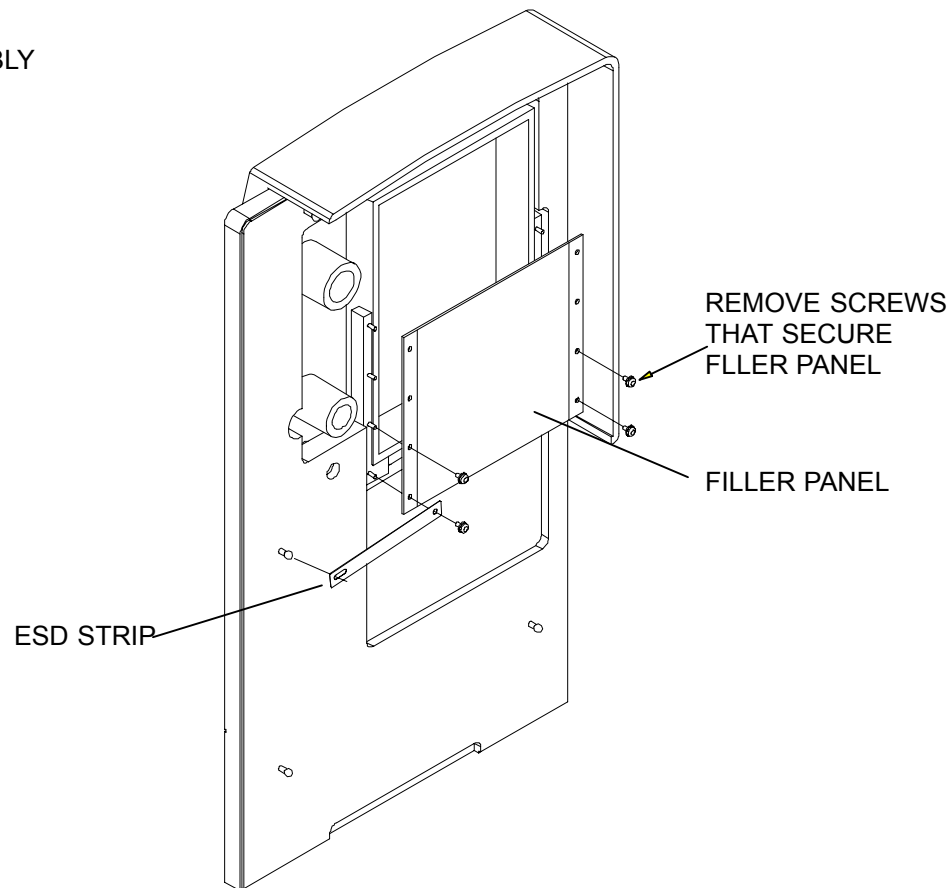

FIGURE 407 ADJUSTING FILLER PANEL
5. Remove the four screws that secure the filler panel. For each 1/2 height drive added, move the panel down one set of screw holes. Secure the filler panel with the four screws. Before pushing the cosmetic cover onto the Display Tower, visually align the cover to ensure proper placement of the filler panel – it should now be just below the lowest drive. Refer to Figure 407.